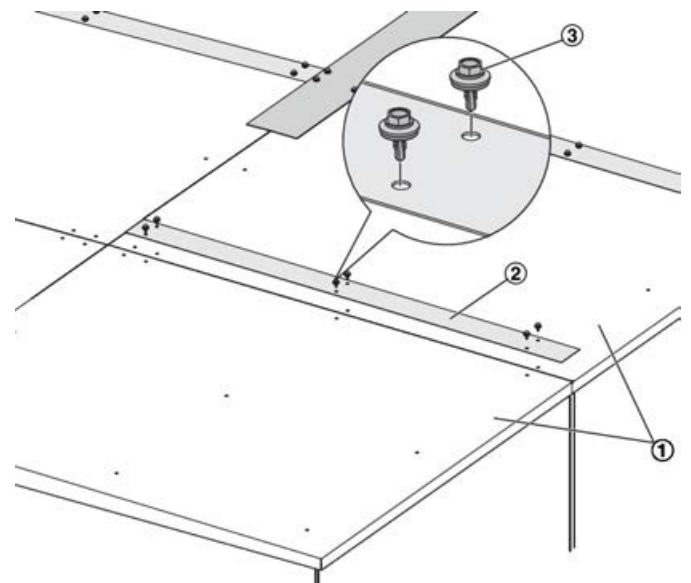

Fig. 21: Joining roof segments
- ① Roof segments
- ② Cover strips
- ③ Self-drilling screws with sealing washers
- ④
1. ▶ Connect all joints between the roof segments (Fig. 21 /1) with cover rails (Fig. 21 /3), and fix cover rails with drilling screws (Fig. 21 /4).